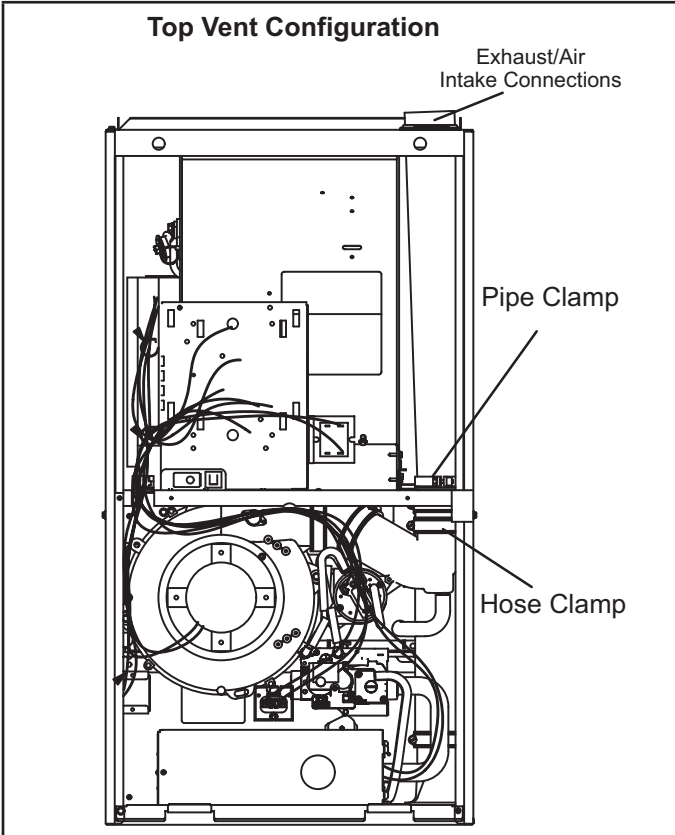
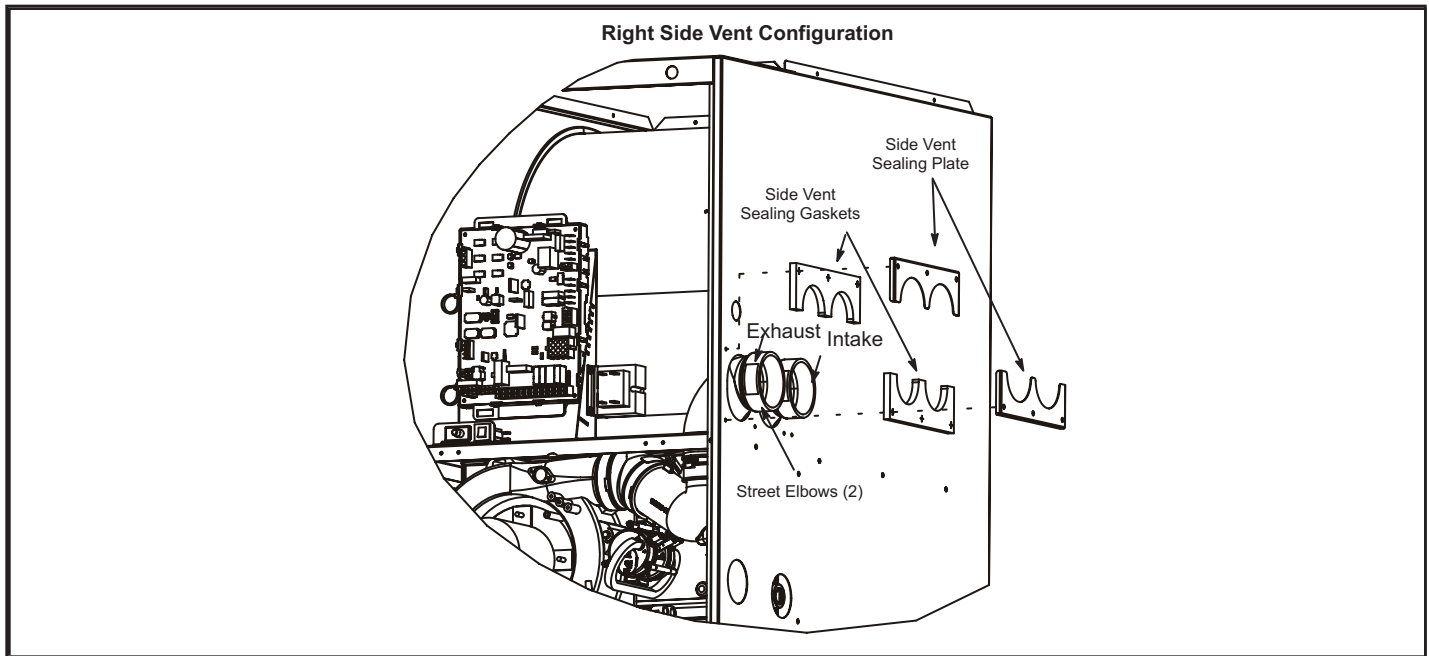

FIGURE 19
FIGURE 22
The EL296DFV is shipped with vent exhaust / air intake connection at the top cap. See FIGURE 19. Using parts provided, the furnace may be field modified to have these connections on the right side of the furnace cabinet. See FIGURE 22 and follow the steps below. For left side venting order kit 87W73.
- 2 - Loosen hose clamps which attach rubber fittings to the white PVC pipes inside the vestibule area. See FIGURE 19.
- 3 - Loosen the clamp which secures the pipes at the blower deck. See FIGURE 19.
- 11 - Peel protective backing from side vent sealing gaskets (2) and apply to side vent sealing plates (2) as shown in FIGURE 22.
12 -Install the side vent sealing plates and gaskets on the exterior of the cabinet as shown in FIGURE 22. Secure with six mounting screws (four reused and two provided from bag assembly). Holes are pre-punched in the parts and cabinet, no drilling is required.